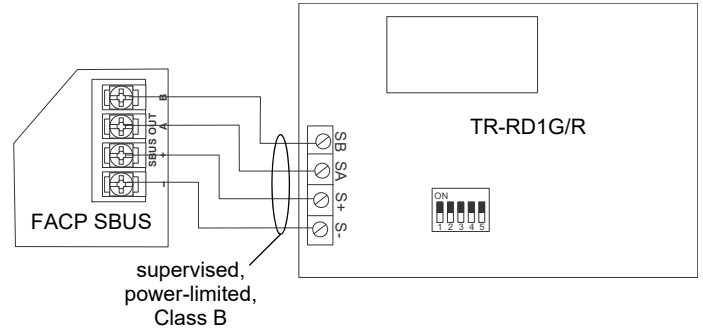

Figure 5 SBUS Connections
3. Connect the TR-RD1G/R to the panel (see Figure 5).